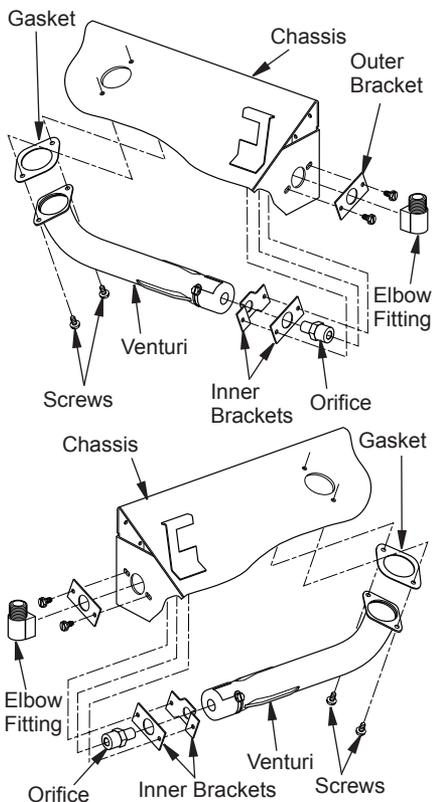

Figure 8 - Repositioning Gas Inlet to Left Side of Unit
- Remove venturi and gasket by unscrewing two screws under chassis (see Figure 8).
- Unthread elbow fitting from orifice (see Figure 8).
- Remove orifice and brackets by unscrewing two screws on right side of unit (see Figure 8).
- Install venturi and gasket under bottom burner and into repositioned orifice and brackets (see Figure 8).
- Thread elbow fitting back into orifice. Apply thread sealant to orifice threads (see Figure 8).
- Install gas connector tube that comes with log set into gas inlet fitting (see Figure 8).
- Install supplied brass adapter fitting that comes with log set into fireplace gas supply pipe. Use thread sealant (see Figure 8).